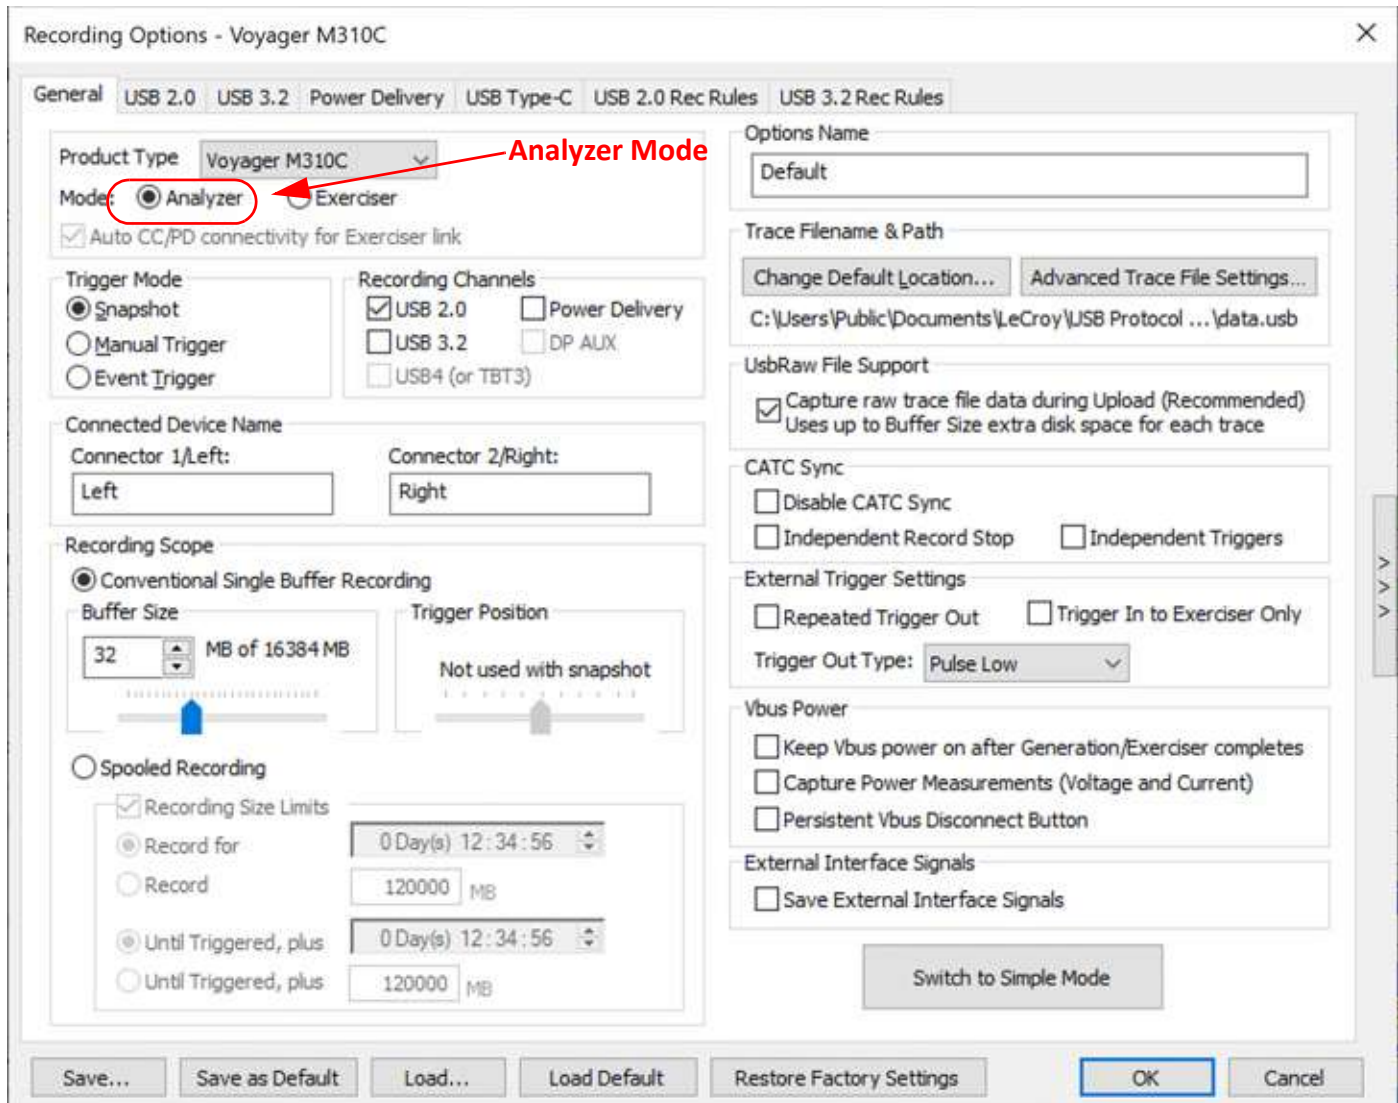

Figure 5.23: Voyager M310C: Advanced Mode Recording Options -> Analyzer Mode
In Advanced Mode the Voyager M310C has options for USB2.0, USB3.2, Power Delivery, USB Type-C, USB 2.0 Rec Rules: CH0 and USB3.2 (SS) Rec Rules. See Figure 5.23.